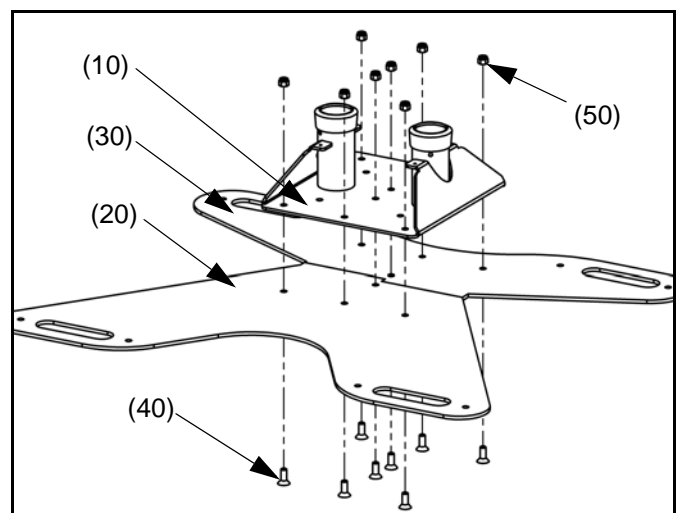

Figure 4: Install Single Base Plates
1. Place Base (10) upside down
2. Secure Front Single Base Plate (20) and Back Single Base Plate (30) using eight flat head cap screws (40) and eight 3/8-16 Nylock nuts (50) (see figure 4).
3. Place Base (10) upright.